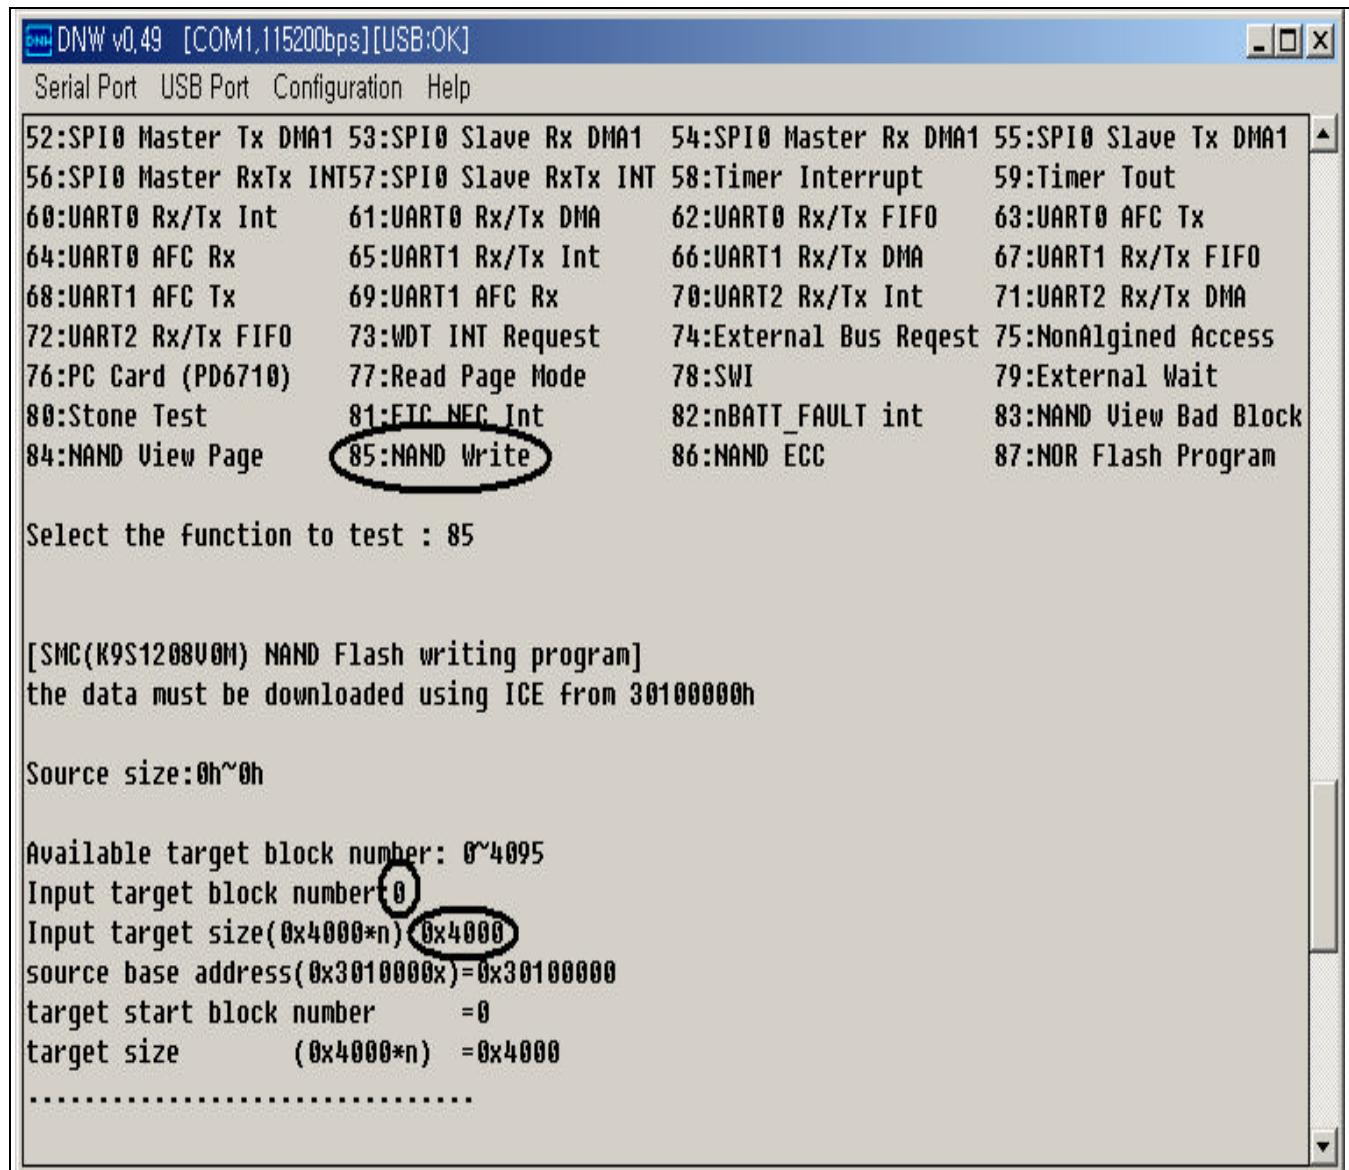

Figure 3-11. DNW Window (NAND Flash Write Program)
10. Write '85' and press enter key on the DNW window (See Figure 3-11).
11. Write the target block number that is the start block to write and press enter key on the DNW window (See Figure 3-11).
12. Write total byte size of the target image, it must be aligned 0x4000 (one block size) bytes (See Figure 3-11).